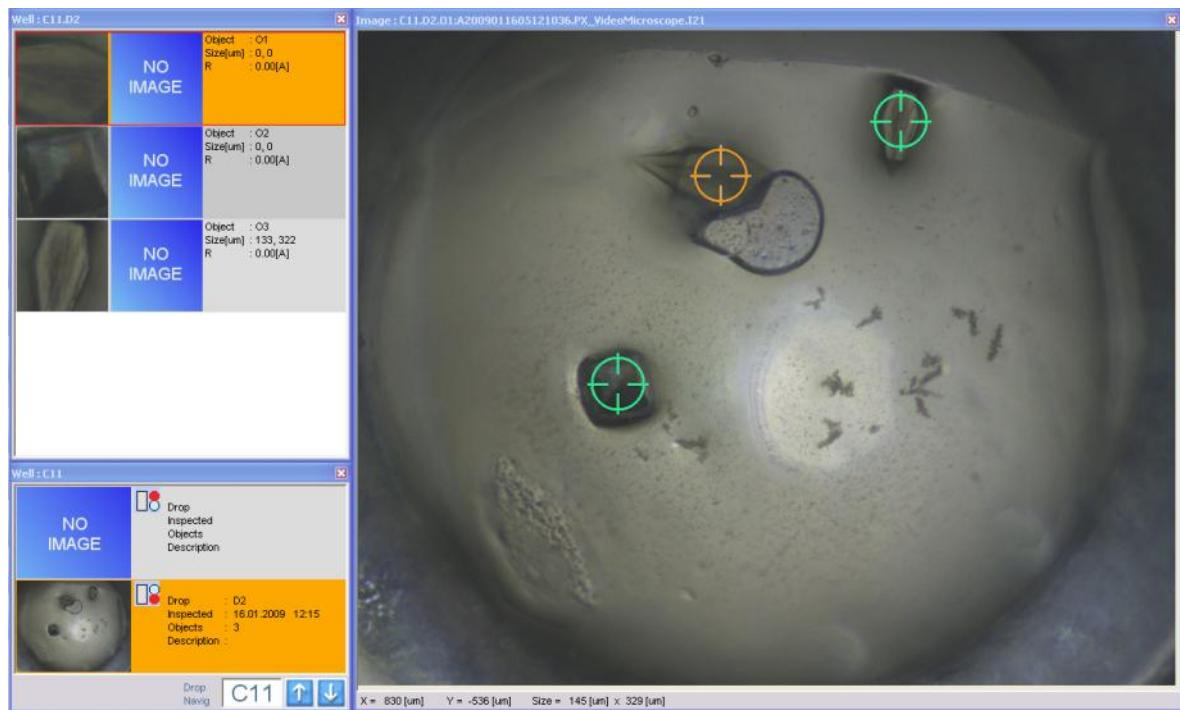

Figure 18 Object selected on main image viewer
To run the X-Ray imaging process a crystal object must be recorded in the database (visible as crystal object entry in the crystal objects list - Figure 18). The crystal object may be selected from:
- By clicking on crystal object marker of the Image View (see Figure 18).